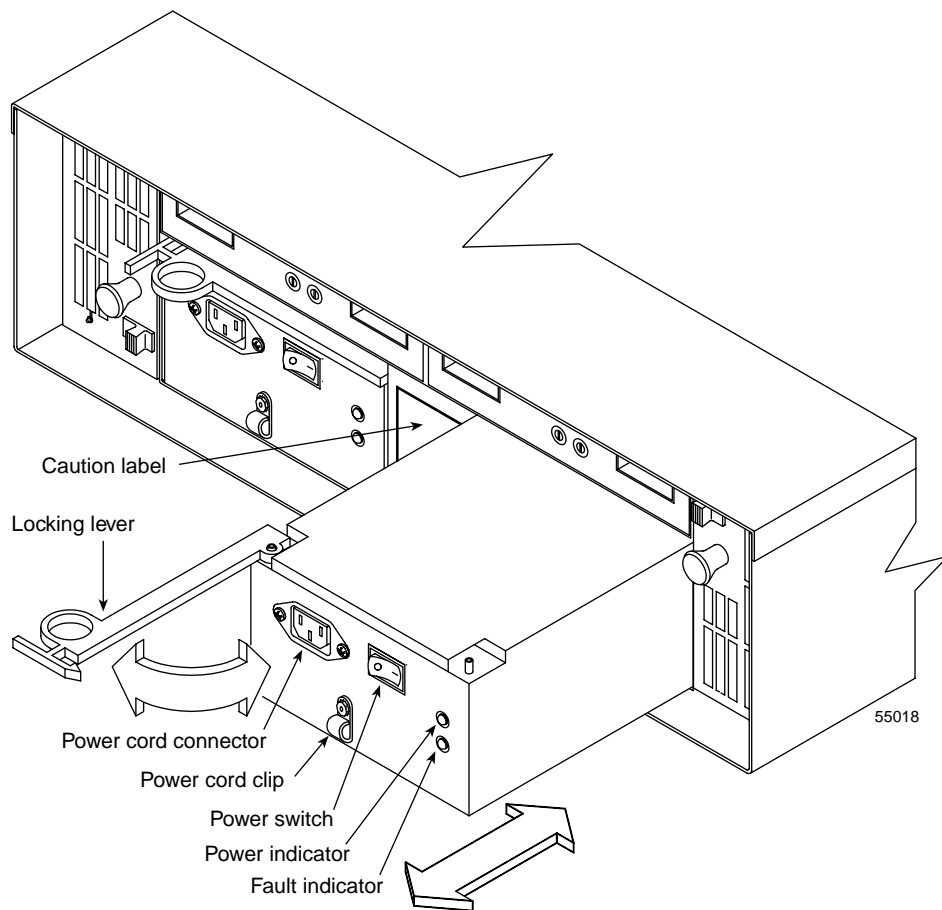

Figure 7-4 Removing and Installing a Power Supply Canister
4. Read the yellow “Caution” label on the rear of the drive enclosure between the power supply canisters (see Figure 7-4).
8. Wearing antistatic protection, grasp the pull-ring on the locking lever and squeeze the tab against the ring to unlatch the lever (see Figure 7-4).
16. Check that the power indicator on the new canister is on and the Fault indicator is off (see Figure 7-4).